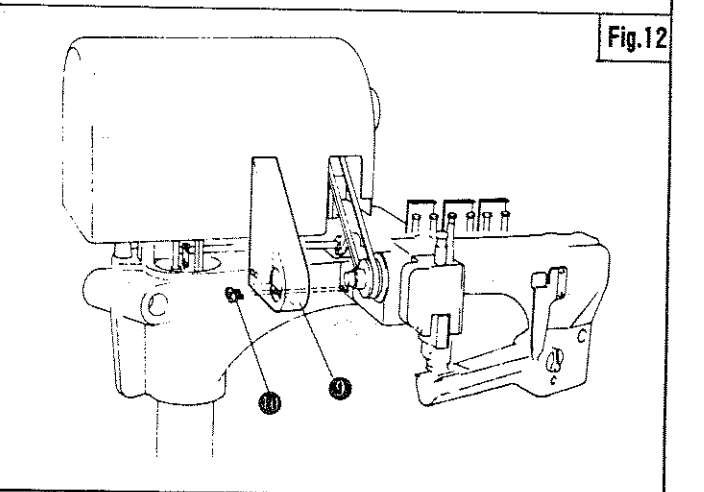

Fig.12
### BELT COVER INSTALLATION (Fig. 12)
Refer to Fig.12 and attached Belt Cover ⑨ with Screw ⑩.